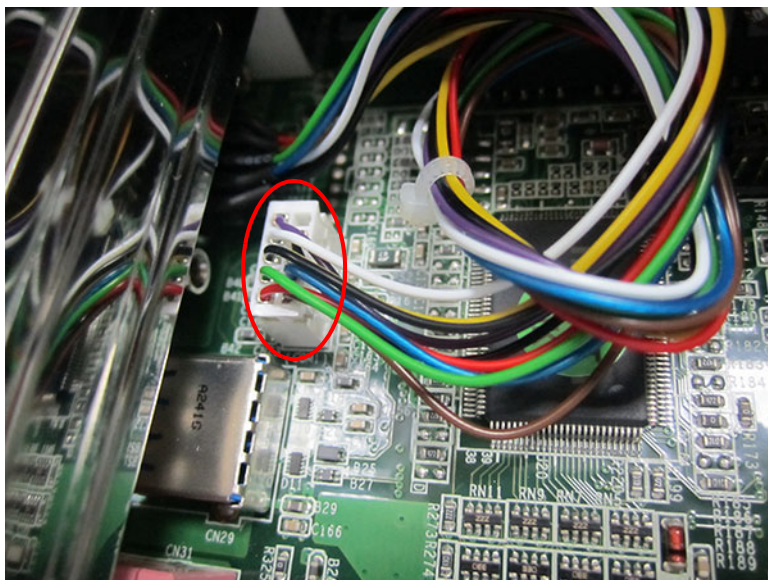

Figure 3.7
- b. Connect the cable to COM port. (See Fig 3.7)